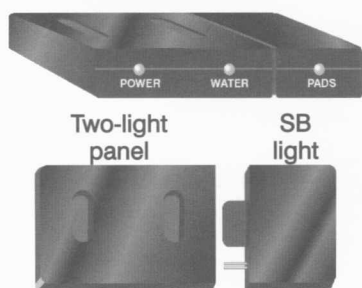

FIGURE 18
The two-light panel (**Figure 18**) features a green light marked **POWER** to indicate the System has electrical power and a yellow light marked **WATER** which blinks when the Humidifier needs to have water added.
If the System includes the optional Smart Bracket (SB), there will be a single-light cube with a red light. The red light, marked **PADS**, will blink when the pads need to be replaced. Connect the two-light panel and single-light cube together (**Figure 18**) by inserting the tongue-latch and two prongs (on the side of the single-light cube) into the corresponding openings on the two-light panel. Insert the metal prongs first while firmly pushing the panels together. **NOTE:** the tongue-latch is slightly bent to create a snug fit between the two panels.